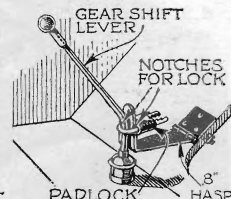

Fig. 6. A lock of this type will prevent unauthorized use of your car, yet permits pushing
**L**OCKING the gear shift lever in neutral is a good way to prevent unauthorized use of your car, and a number of cars are now regularly fitted with transmission locks to accomplish this purpose. An ordinary hasp bolted to the floor board and with the end bent up as shown in Fig. 6 will do very nicely if notches are cut in the bent-up portion to permit the bolting of the end of the hasp to the gear lever with an ordinary bicycle lock. Of course, such a lock will not stop a thief armed with a hacksaw.